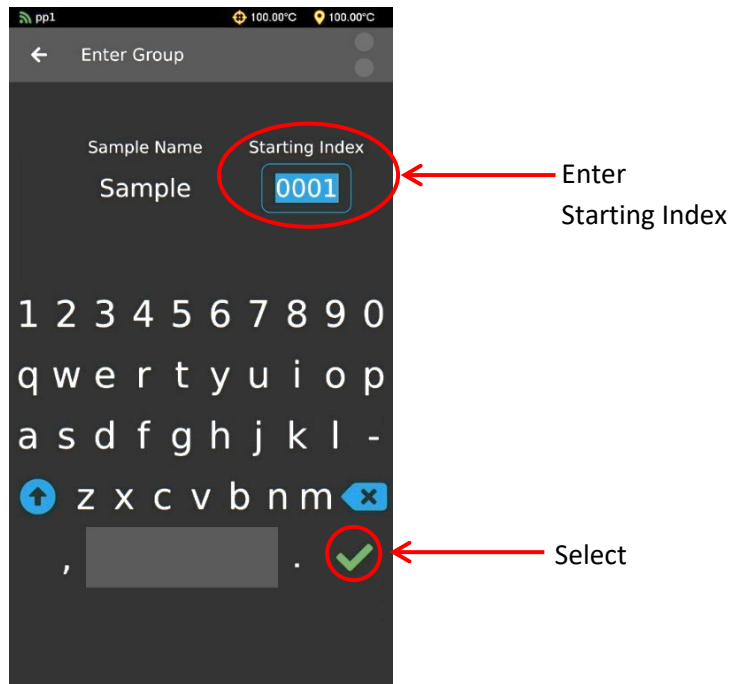

Figure 39: Starting Index
3. Next, enter the **Starting Index** and select the **Green Checkmark**. See Figure 39.